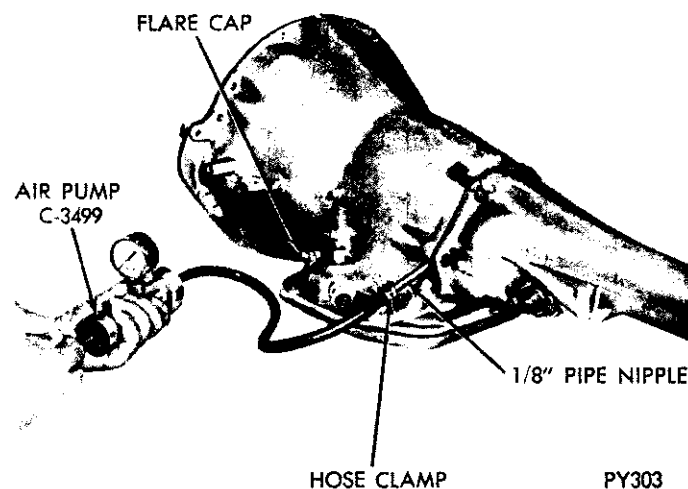

Fig. 5—Pressurizing Transmission
(4) Attach and clamp hose from nozzle of Tool C-3499 to pipe nipple, which is in rear cooler line fitting position in case (Fig. 5).
(5) Pressurize the transmission using Tool C-3499, until the pressure gage reads 8 psi. Position transmission so that pump housing and case front may be covered with soapy solution or water. Leaks are sometimes caused by porosity in the case or pump housing. **CAUTION: Do not, under any circumstances, pressurize a transmission to more than 10 psi.**